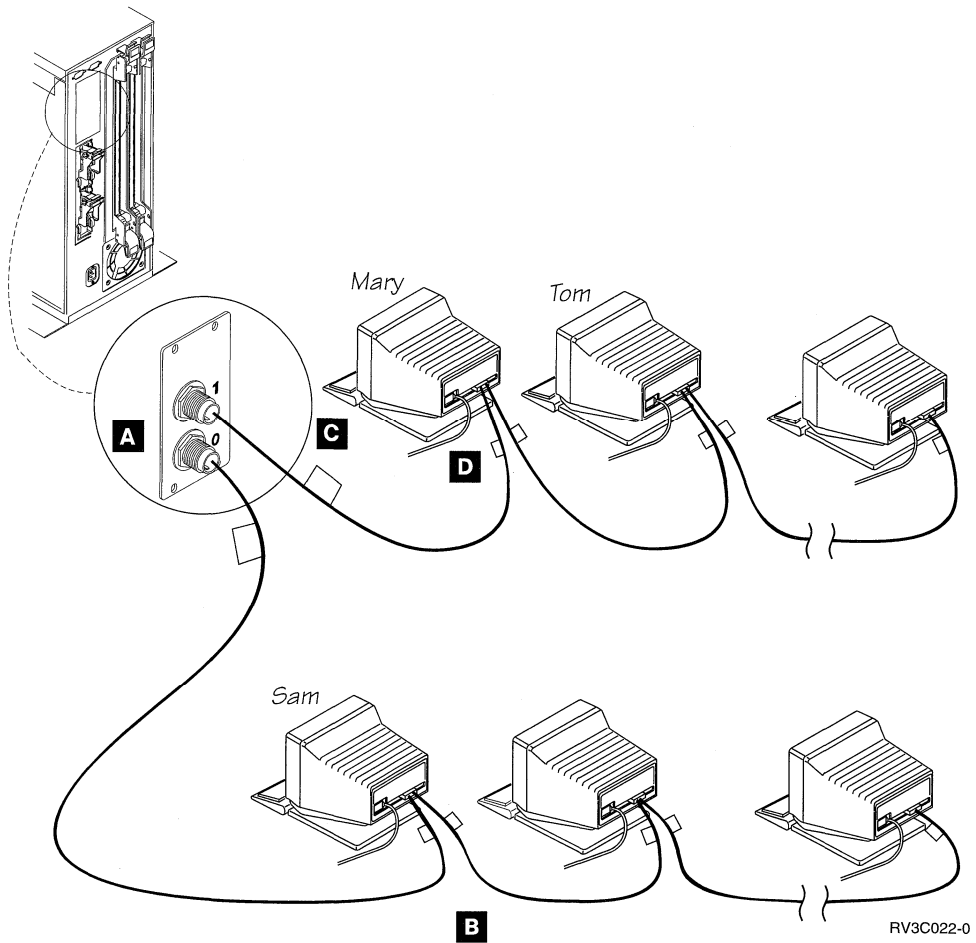

Figure 7-2. Labeling Twinaxial Workstation Cables
Refer to Figure 7-2 on page 7-5. For the sample points indicated, you would make labels as shown in the table below. **Make a label for each end of each cable in the system.**
- Step 1** Study Figure 7-2 for an overview of twinaxial workstation cable labeling.